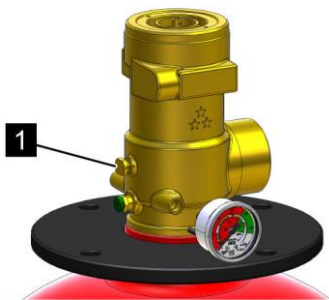

Fig. 137: Attach the blind plug
3. ➤ Seal all control outlets with blind plugs (Fig. 137/1).